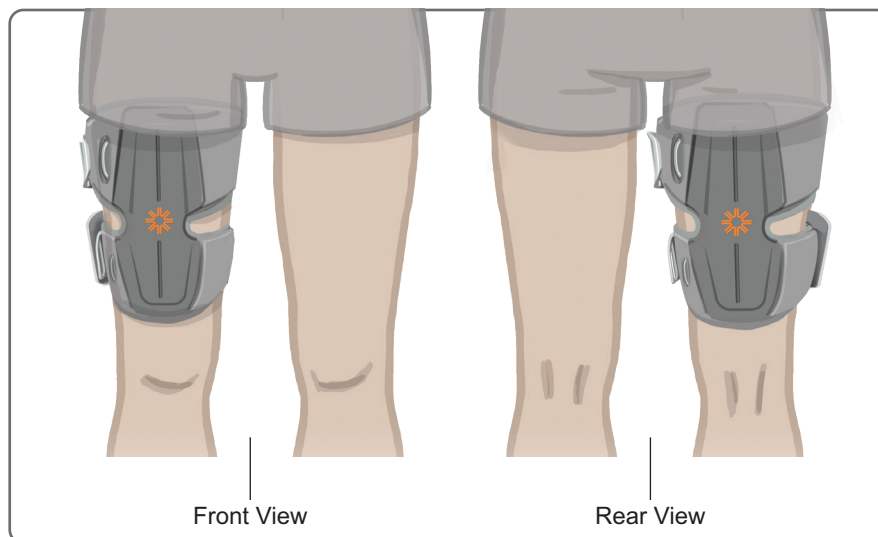

Figure 8-18: Correct Position of the Thigh Cuff
5. Center the bridge on the midline of the thigh. See Figure 8-18.
6. Fasten the straps by inserting the strap buckle into the hook attached to the Thigh Cuff panels. See Figure 8-18. If needed, tighten the strap tension by adjusting the strap fasteners.